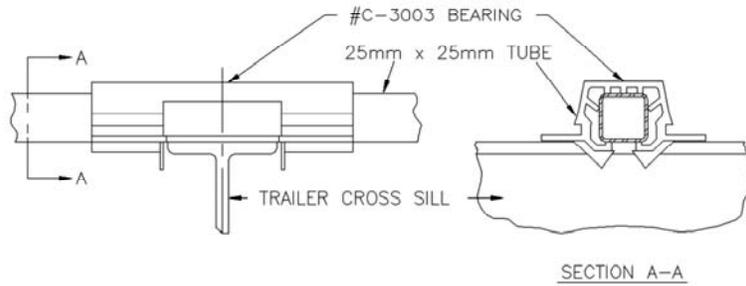

Figure 9
2. Check cross-member flange width for proper bearing fit (Figures 9 and 10). Please note that Figure 9 is for 3.65" (92.71mm) or 97mm slat/plank centers and Figure 10 is for 6" (152.4mm) slat/plank centers.